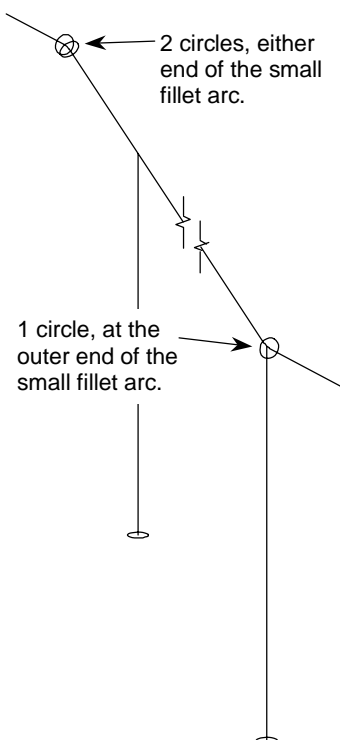

Figure 19
- Set up a circle with radius 20 at each of the 5 positions indicated on Figure 19 — the two at the base of the vertical supports are easy — the others will require you to set up the UCS using the *ZAxis* option on each of the 3 straight line segments so that the circle is correctly orientated.